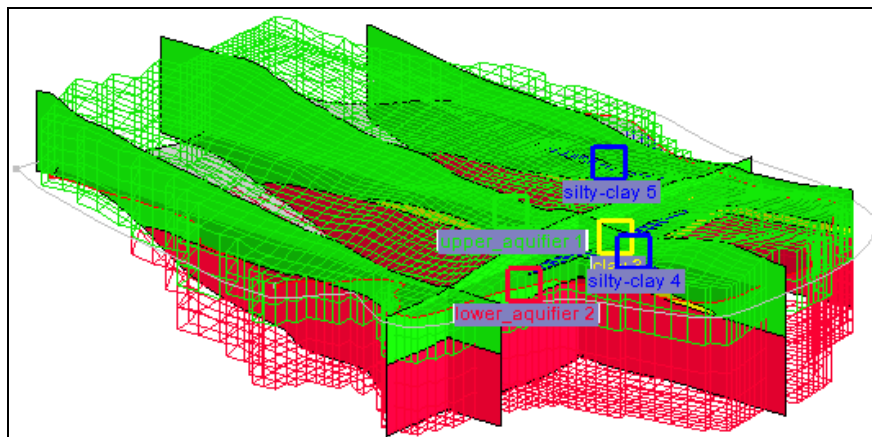

Figure 7 The 3D grid has been deformed
1. In the Project Explorer, select the “ Solid Data” folder to make it active. Notice that labels for each solid appear (Figure 7).
The deformation may take a few moments to complete. The 3D grid should appear deformed to match the top and bottom of the solids (Figure 7).